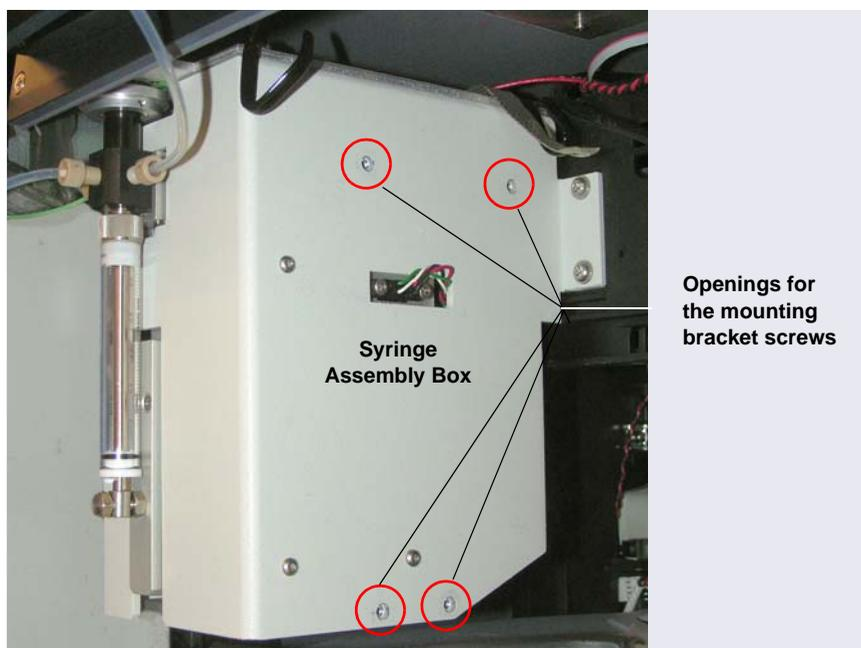
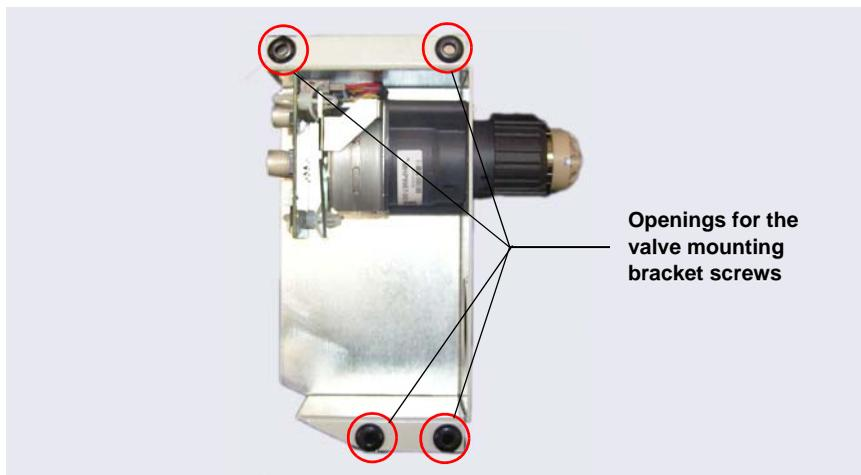

Figure C-6. *Mounting Location for the Valve with Mounting Bracket*
Figure C-7. Valve with Mounting Bracket Side View
7. Note the four mounting screw openings on the side of the syringe assembly box (see Figure C-6) and the corresponding openings on the mounting bracket (see Figure C-7).